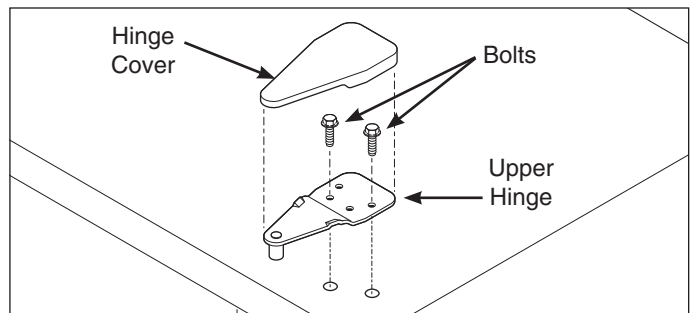

Figure 6-36. Upper Hinge Removal
3. Lift plastic cover off upper hinge assembly. (See Figure 6-36)